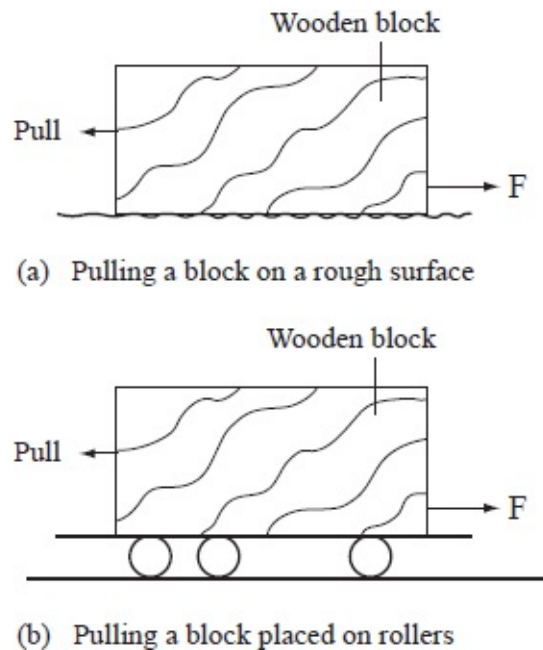

Fig. 3.11
- Using a spring balance, pull the block gently as shown in the figure 3.11 (a), gradually increasing the force. What finally happens to the block?
- Repeat the experiment, this time with the block resting on rollers as shown in figure 3.11 (b). In which case do you require less force for the block to start moving? How else, apart from using rollers, can you reduce the force needed to make the block start moving?
In figure 3.11 (a), the wooden block starts moving when the applied force is just greater than a frictional force between the block and the surface of the bench. Frictional force can be reduced by using rollers, oiling or smoothing.